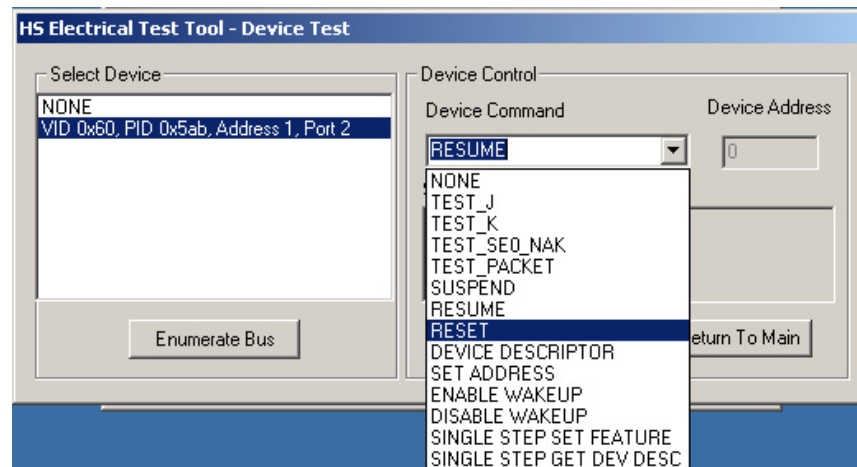

Figure 27. Device Reset
- d. On the HS Electrical Test Tool - Device Test menu, select RESET from the Device Command drop down menu (Figure 27).